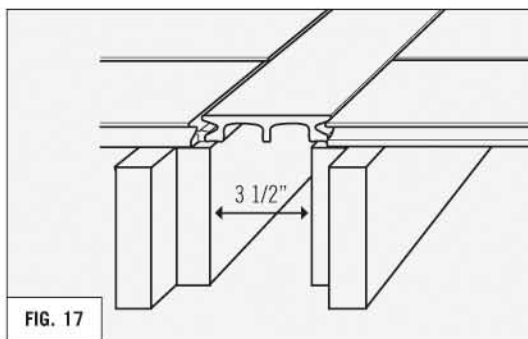
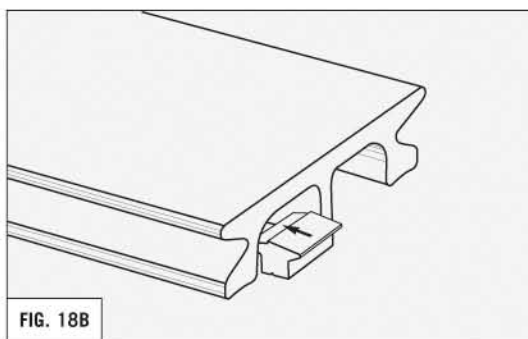

FIG. 17
FIG. 18B
- Install perpendicular decking next. Toe screw each board in the middle with a single screw. To achieve the smallest possible gaps with the breaker board, the center leg on the ends of the perpendicular deck boards can be removed with a handsaw and chisel to slide over the Wing-clip. Remove a maximum of 1" of the center leg from the end of the deck board. (REFER TO FIG. 17 & 18A). As an alternative, the Wing-clip can be trimmed down to fit between the foot and the center leg of the board. (REFER TO FIG. 18B)